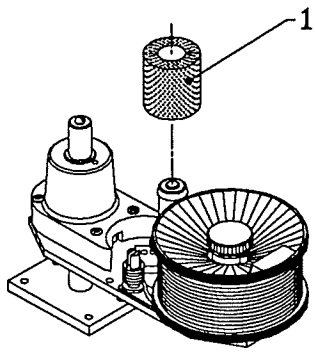

Figure 10 : Kortho-lon inking system
3.6.2 The Kortho-Lon inking system (see figure 10)